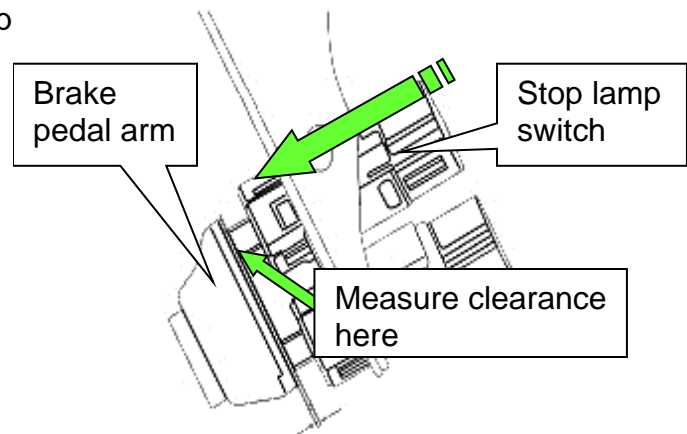

Figure 11
2. While unlocked, gently push the stop lamp switch until its plastic body contacts the brake pedal arm (Figure 11).
4. Confirm the clearance between brake pedal arm and plastic body of the stop lamp switch (Figure 11); readjust as necessary.